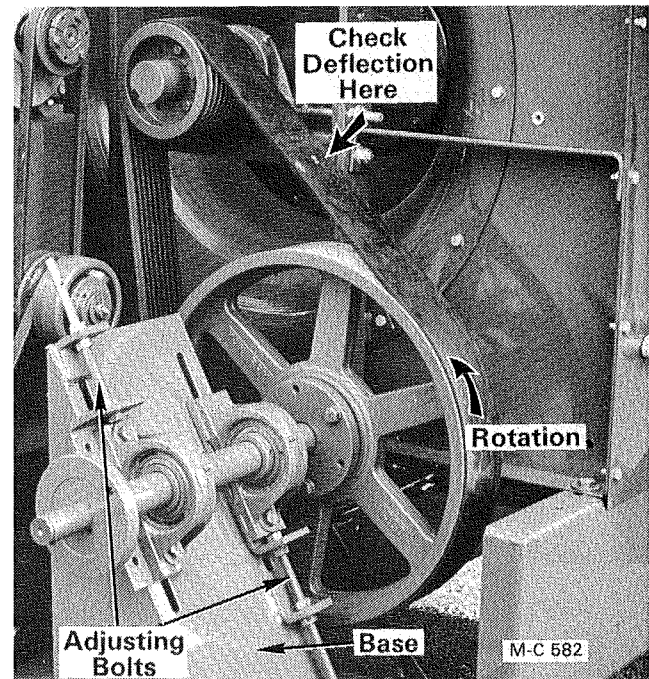

Figure 39 - PTO Side Drive
2. Loosen the locknuts on the adjusting bolts. Turn the nuts on the adjusting bolts to move the jack shaft and bearings down to increase belt tension, see Figure 39.